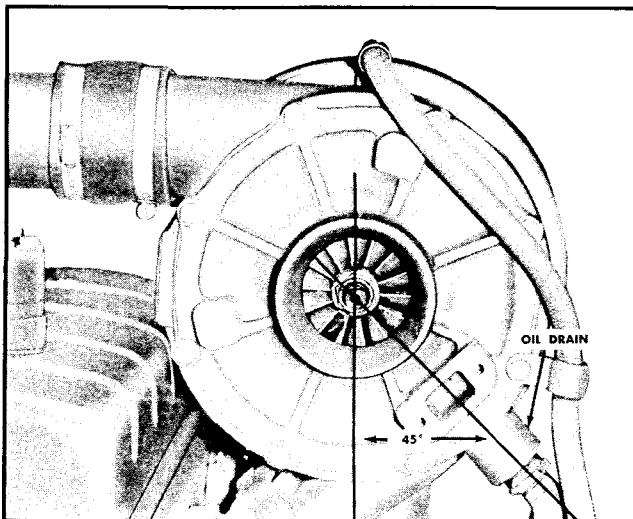

Fig. 4-17. Oil drain position
1. Check position of lubricating oil drain (large boss). Oil drain must always be down or within 45° of that position when turbocharger is mounted on engine. Fig. 4-17.